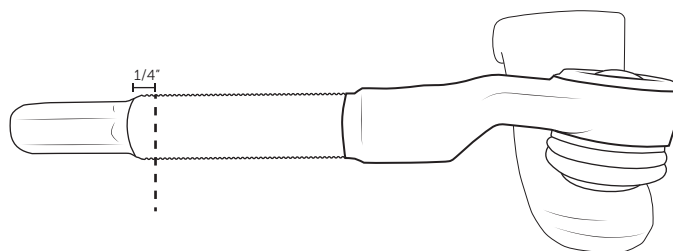

Figure 38
- B. Begin threading draglink end into adjuster. Rotate adjuster until length is close to measurement recorded during disassembly (step 3a). In isolated cases, the OEM pitman arm tie rod end may need to be trimmed slightly to allow draglink assembly to be adjusted short enough. If unable to reach length recorded in step 3a, remove adjuster from OEM pitman arm TRE and trim off clocking feature and 1/4” of thread from the end, being careful not to damage the threads (fig. 38). Clean up the end of the threads, make sure adjuster threads on freely, and then apply paint or anti-rust coating to the trimmed end. Reinstall draglink and adjuster and adjust to length from step 3a.